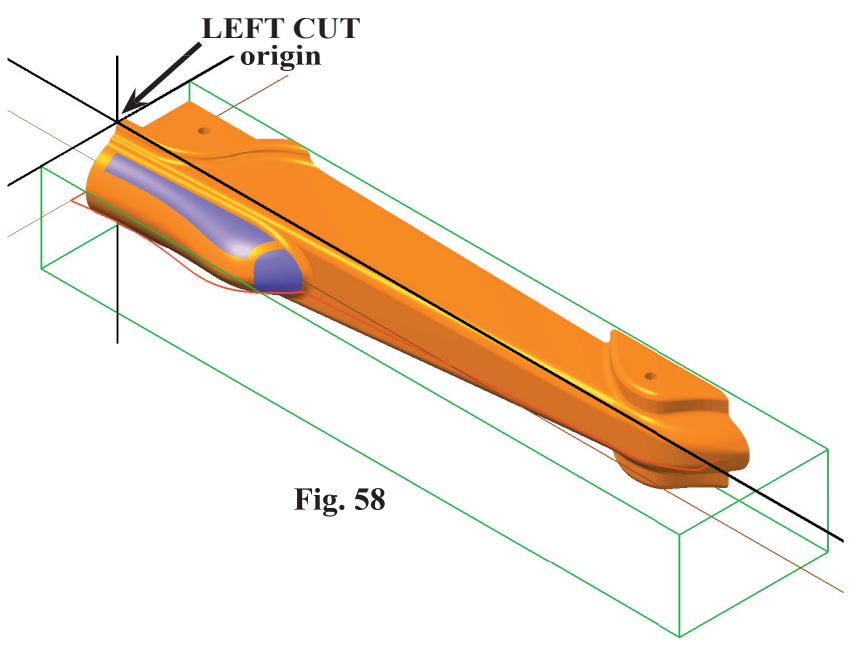

Fig. 58
Step 8. Check the origin. Use **F9** to show the axes, **Fig. 58.**